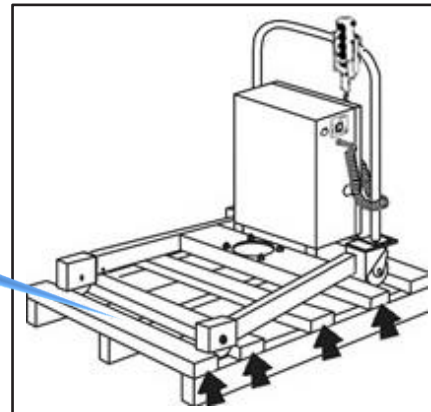

Figure 5
2. Remove the pallet cross-ties (Figure 5) and use a pry-bar as required to remove them.